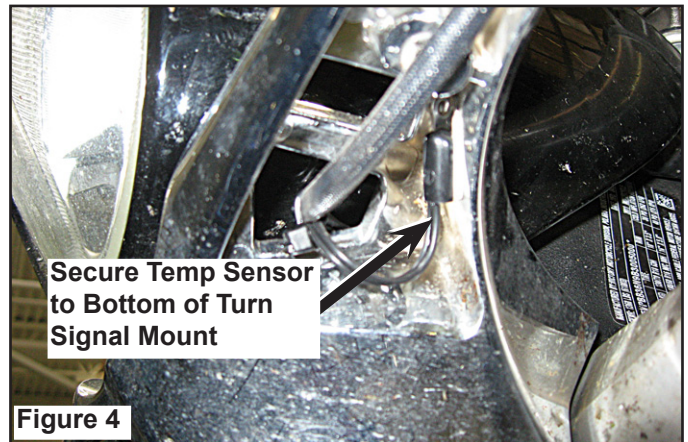

Figure 4
10. Use the supplied foam double sided tape to secure the air temperature sensor to the inside rear of the turn signal mount. Figure 4.